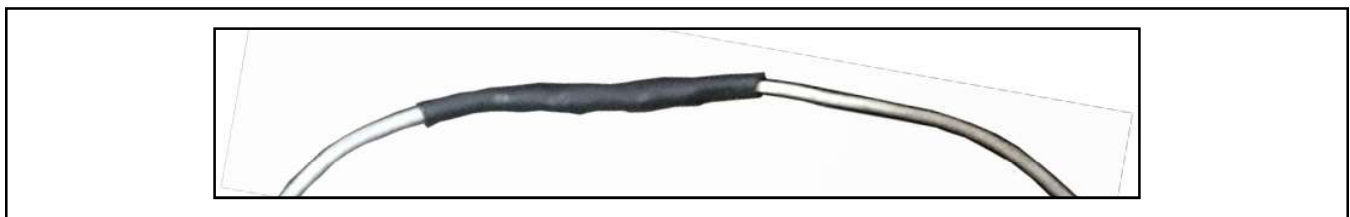

Figure 18 - Butt Splice Covered with Heat Shrink Tubing
2.1.8. Cover each butt splice with the piece of heat shrink tubing inserted at step 2.1.4 and heat with a heat gun until tubing recovers and adhesive flows (see Figure 18).